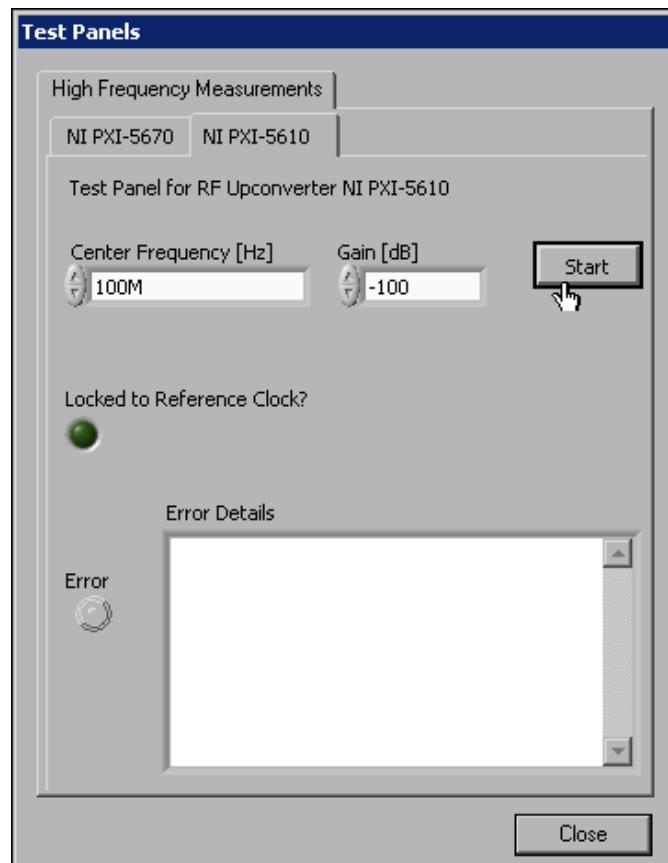

Figure 5. Click the NI 5610 Tab to View the Upconverter Module Test Panel
10. In the *Test Panels* window, click the *NI 5610* tab to view the NI 5610 test panel shown in Figure 5 below.